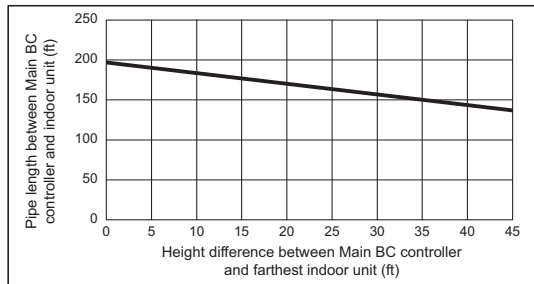

Fig. 2
*2. Details refer to Fig. 2.
*9. When the piping length or the vertical separation exceeds the limit specified in Fig. 2, connect a sub BC to the system.
When using indoor models P54 or larger, the restrictions shown in Fig. 2 cannot be exceeded.